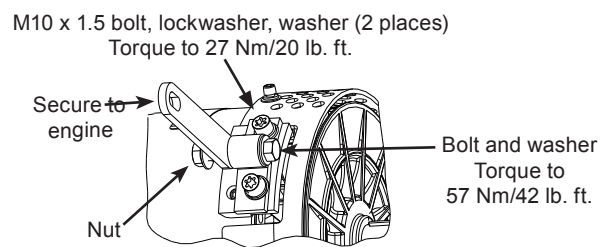

Figure 2: Vibration Dampening Bracket Installation (Example only; install if required)
4. Install vibration damper bracket per engine manufacturer's instructions if included with alternator and/or required by engine manufacturer. See Figure 2.